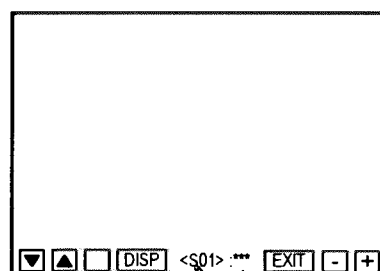

Fig. 4
- While the adjustment mode menu is displayed.(Fig.4)
- ① Press the +key to change the setting value in the + direction.
- ② Press the -key to change the setting value in the - direction.
- ③ Press the **PHASE** key or **CHROMA** key to change the adjustment items.